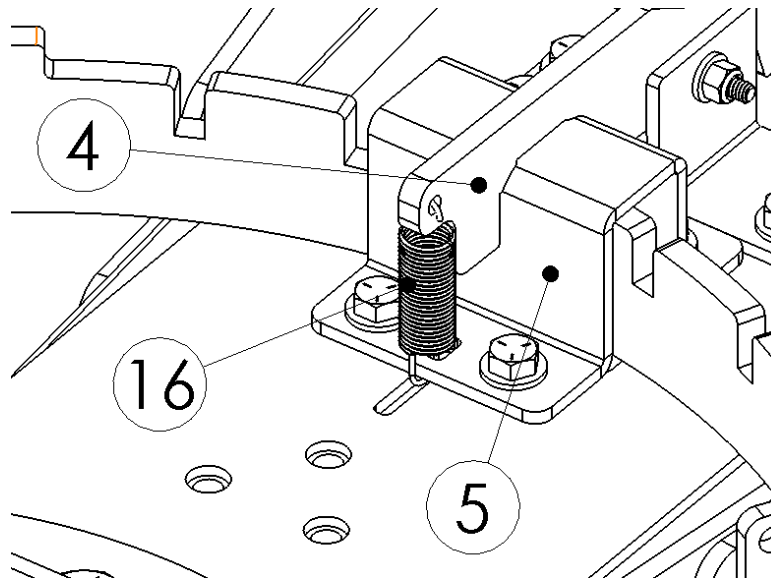

Figure 5
- 5) Install the Lock Lever Spring between the Pivot Lock Lever and Pivot Lever Support Bracket using a needle nose pliers as shown **Figure 5**.